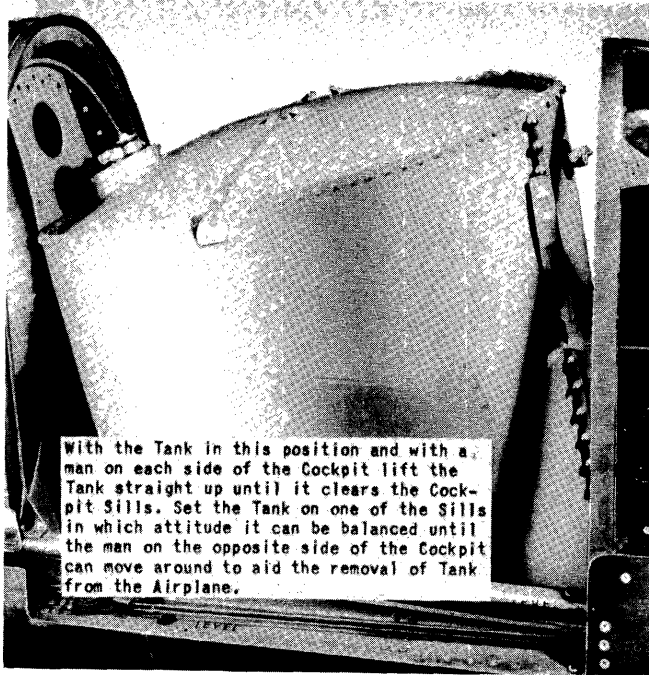
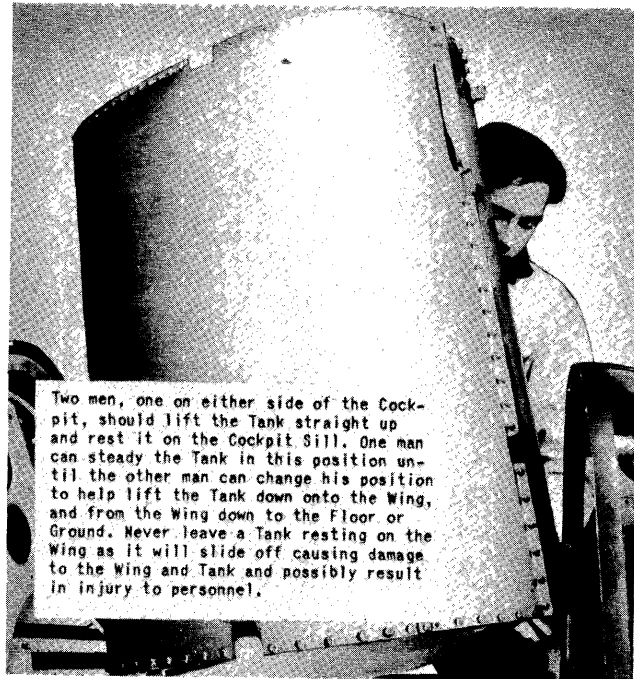

Figure 223 - Fuselage Tank Ready for Removal from the Cockpit
Figure 224 - Tank Resting on Cockpit Sill Ready for Removal from the Airplane
(27) When the tank has been moved forward as far as it will go, start to raise the aft end of the tank. After the aft end has been raised about a foot off the cockpit floor, two men working from either side of the cockpit can work the aft end of the tank upwards by raising the aft end while pushing the forward end back until the tank is in an upright position. (See figure 223.) The tank should now be raised straight up until it can be rested on the cockpit sill. (See figure 224.) One man can now steady the tank while the other man moves around the airplane to help him lift the tank down on the wing. Remove the tank from the wing to the floor or ground.
(1) Raise the tank to the walkway on the wing and move it up even with the cockpit opening.
(2) With two men on the wing, tip the tank so that the forward end is down and raise the tank up until it rests on the cockpit sill. (See figure 224.) One man can now balance the tank while the other takes his place on the opposite side of the cockpit.
(3) Lift the tank off the sill and allow it to lower into the cockpit with the tank still in a vertical position until it rests on the torque tube and push-pull rod assemblies on the cockpit floor. (See figure 223.)
(4) Grasp the forward end of the tank, resting on the cockpit floor with one hand and the flange on the aft end with the other hand, and lift up slightly on the tank while turning the aft end downward. Keep on working the tank to a horizontal position being extremely careful not to foul any of the controls or instruments in the cockpit.